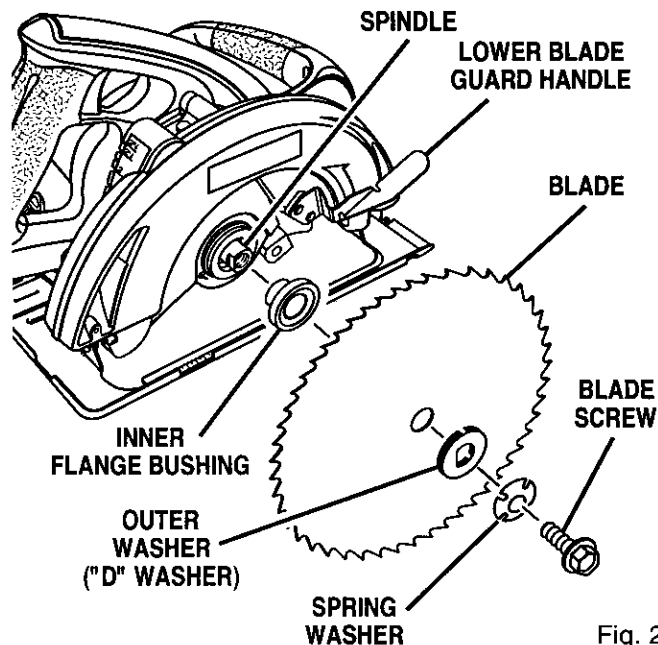
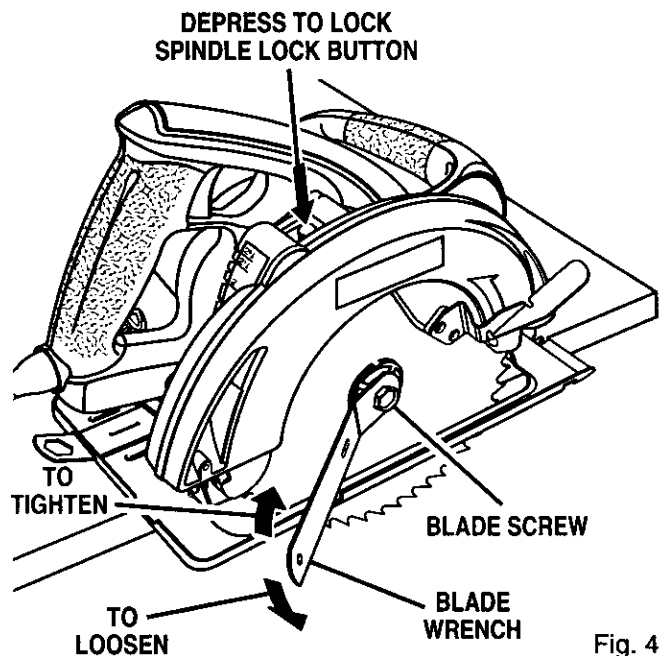

Fig. 2
Fig. 4
See Figures 2, 3, and 4.
- Position your saw as shown in Figure 4, depress spindle lock button, and remove blade screw. See Figure 2.
- Remove spring washer, and outer blade washer ("D" washer). See Figure 2.
- Fit saw blade inside lower blade guard and onto spindle. **Note:** The saw teeth point upward at the front of saw as shown in Figure 2.
- Position your saw as shown in Figure 4, depress spindle lock button, and remove blade screw. **Note:** Turn blade screw counterclockwise to remove.
- Remove spring washer and outer blade washer ("D" washer). See Figure 2. **Note:** Blade can be removed at this point.